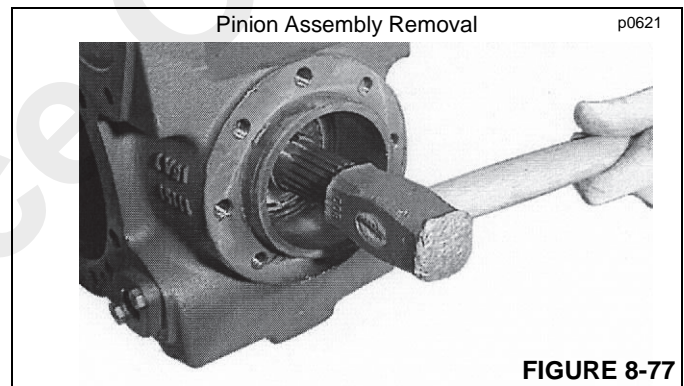

FIGURE 8-77
4. Using a soft hammer, strike the end of the splined end of the pinion to remove the pinion assembly from the housing (Figure 8-77).